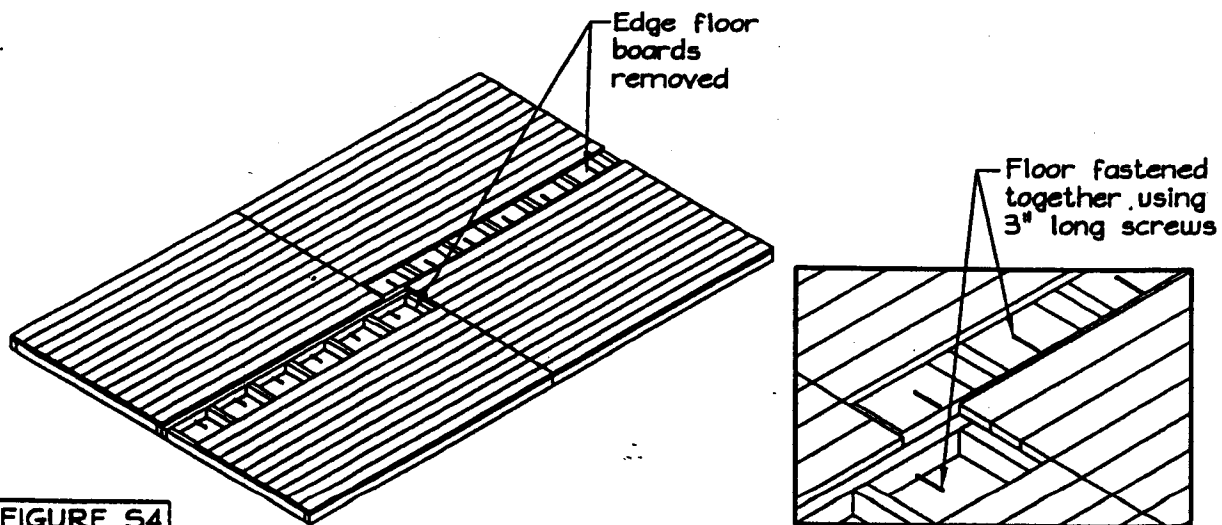

FIGURE S4
- You need to connect the two floor panels together as shown in Figure S3A from the bottom. You will then flip the floor assembly over so the decking is facing up again. Do not drop the unit while flipping it over. Now connect all 4 panels together as shown in Figure S4.
- Two of the four floor panels come with 1" screws on the edge two floor boards. Remove the edge floor boards so you can secure the floor panels together. Place floor panels butt up against each other on the leveled foundation. Use 8-10 3" long screws per side as shown in Figure S4. See Detail 1. Reattach the floor boards after securing the floor panels together using the same 1" screws removed earlier.